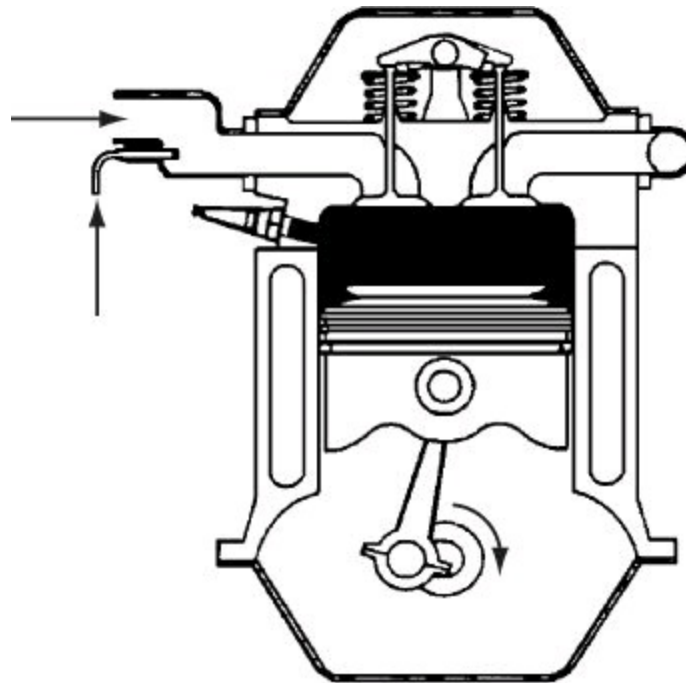

Figure P3.1.2
****3.1.2.** Examine Figure P3.1.2, which shows a cylinder that is part of a Ford 2.9-liter V-6 engine. Pick a system and state it. Show by a crude sketch the system boundary. State whether your system is a flow system or a batch system and why (in one sentence).